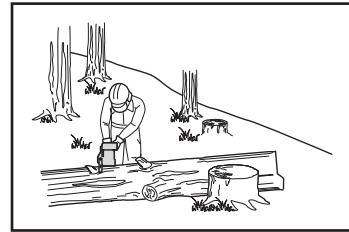

Fig. 12d
- When bucking on a slope always stand on the uphill side of the log (Fig. 12d). When “cutting through”, to maintain complete control release the cutting pressure near the end of the cut without relaxing your grip on the product handles. Don't let the chain contact the ground. After completing the cut, wait for the saw chain to stop before you move the product. Always stop the motor before moving from tree to tree.